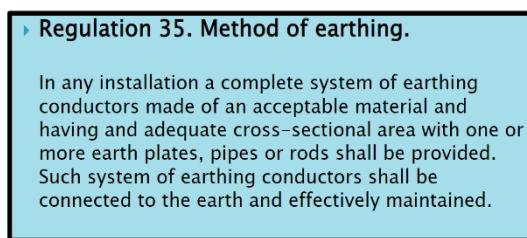

Figure B4(b)/ Rajah B4(b)
- CLO1 (b) The Electricity Supply Regulations 1994 in **Figure B4(b)** shows that there are few methods that can be used for earthing. Produce an information chart to simplify the meaning of earthing methods.